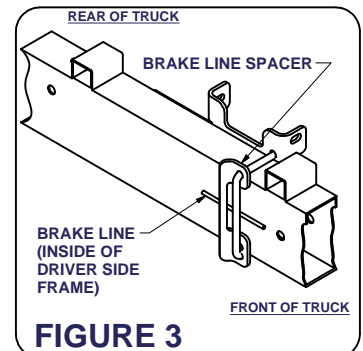

FIGURE 3
- 8) Insert a 5/16" x 1" carriage bolt through the driver side plate with the threads facing out. Reattach the parking brake cable bracket to the bolt and side plate if needed. Next, install the U-bolts from inside the frame through the holes in the side plates. On the driver side, it is necessary to remove a wiring harness frame clip. Place the U-bolt against the frame staying under the wiring harness and brake line. Make certain that nothing is between the U-bolt and frame before attaching to the side plate. If needed, a brake line spacer is in the bolt kit and can be used to clamp the U-bolt over the top of the brake line when installed as shown in **Figure 3**. Replace the wiring harness frame clip and fasten the U-bolt to the side plates using a 1/2" lock washer and a 1/2" flange nut to each end of the U-bolt. (**Finger tight only**) Next, attach rear end of side plates to the truck frame by inserting the 5/8" x 7 3/4" hex bolt through the hole in the side plate that wraps under the frame. Push the hex bolt up through the frame with a 5/8" washer on it and attach it to the top of the frame with a CM-SP24 spacer and a 5/8" nut.